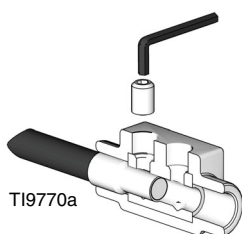
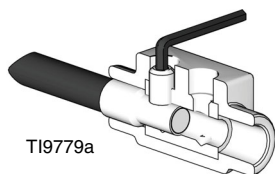

FIG. 4: Insert Wire and Setscrew
FIG. 5: Torque Setscrew
- a. Insert one wire from heated hose into connector (1). Ensure that ferrule is mating with connector insert. See FIG. 4.
- c. Insert remaining wire from pair into connector (1); ensure proper insertion depth. Thread setscrew (2) and torque to 60 in-lbs (6.78 N•m); see sub-step B. See FIG. 4 and FIG. 5.
- e. Re-torque all four setscrews (2) to 60 in-lbs (6.78 N•m).